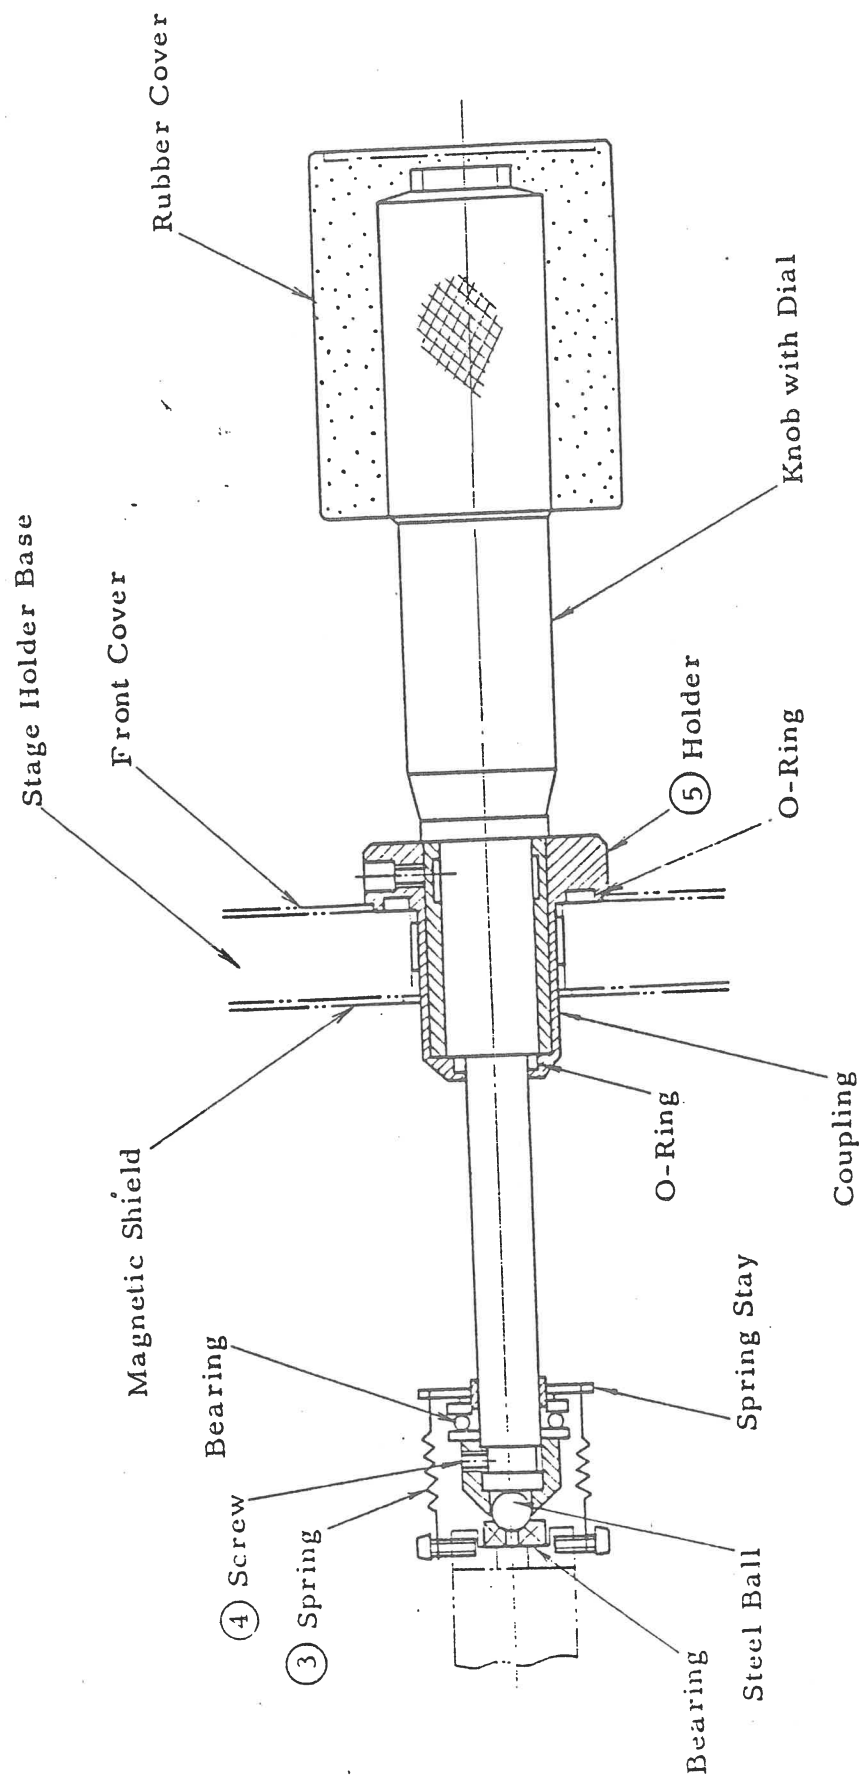

Fig. 4-14 Construction of X, Y Knobs and Drive Assembly
- (a) Each knob assembly (Figs. 4-14 ~ 4-15)
- 3) Detach two springs (3) (Fig. 4-14) at the tips of X and Y knobs having the same shape.
Loosen three screws (4) (Fig. 4-14) to detach the component.
- 4) Loosen base (5) (Fig. 4-14) counterclockwise.